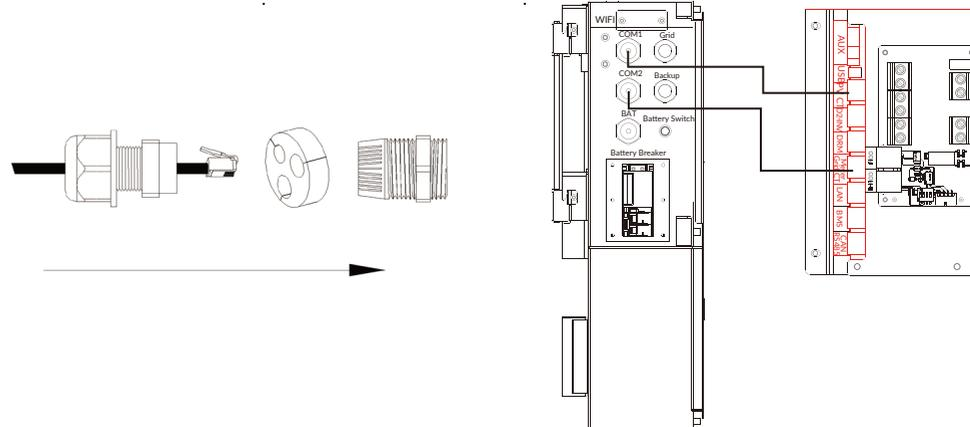

Figure 2.14 CT Wire Harness Wiring
Step 10 Installing CT as shown in Figure 2.14.